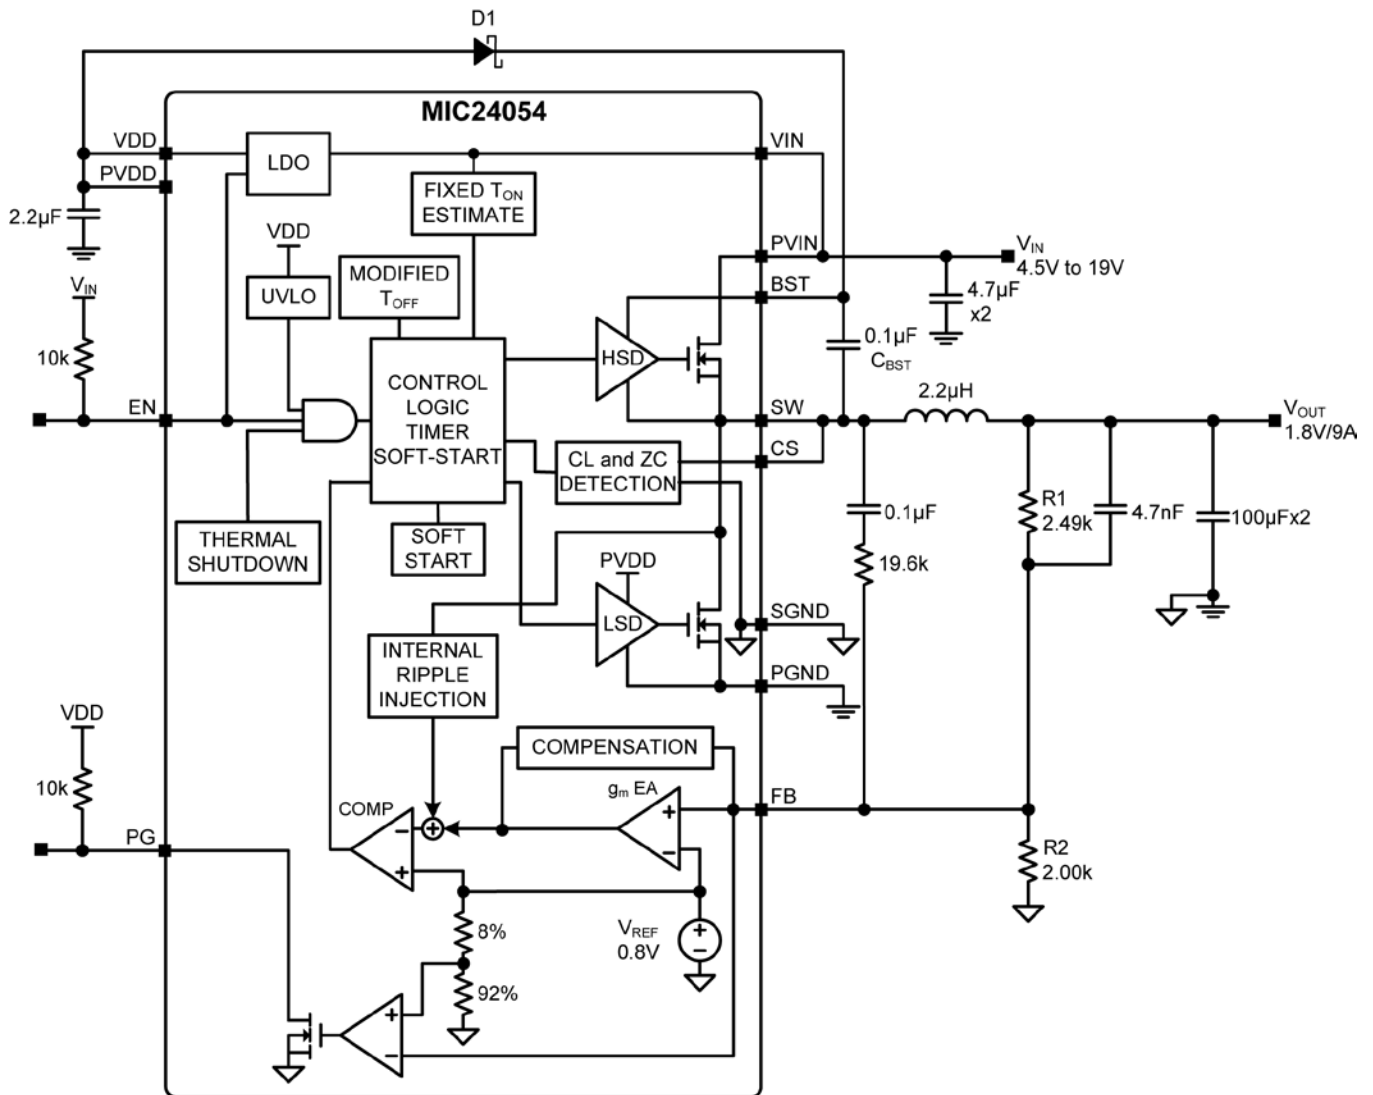

Figure 1. MIC24054 Block Diagram
The MIC24054 is able to operate in either continuous mode or discontinuous mode. The operating mode is determined by the output of the Zero Cross comparator (ZC) as shown in Figure 1.
The Block Diagram (Figure 1) shows a bootstrap circuit, consisting of D1 (a Schottky diode is recommended) and C_{BST} . This circuit supplies energy to the high-side drive circuit. Capacitor C_{BST} is charged, while the low-side MOSFET is on, and the voltage on the SW pin is approximately 0V. When the high-side MOSFET driver is turned on, energy from C_{BST} is used to turn the MOSFET on. As the high-side MOSFET turns on, the voltage on the SW pin increases to approximately V_{IN} . Diode D1 is reverse biased and C_{BST} floats high while continuing to keep the high-side MOSFET on. The bias current of the high-side driver is less than 10mA so a 0.1 μ F to 1 μ F is sufficient to hold the gate voltage with minimal droop for the power stroke (high-side switching) cycle, i.e. $\Delta BST = 10\text{mA} \times 1.67\mu\text{s}/0.1\mu\text{F} = 167\text{mV}$. When the low-side MOSFET is turned back on, C_{BST} is recharged through D1. A small resistor R_G , which is in series with C_{BST} , can be used to slow down the turn-on time of the high-side N-channel MOSFET.